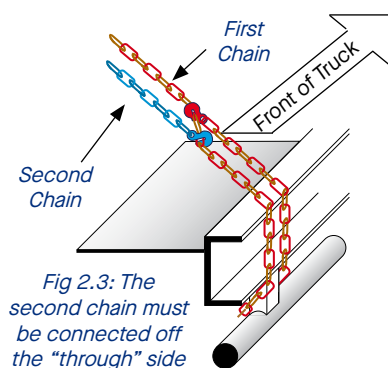

Fig 2.3: The second chain must be connected off the “through” side of the first chain.
- ✓ **2nd off 1st chaining method MUST be used**, if two chains are needed. Refer to the BlueScope Steel Load Restraint Guideline “Chaining - 2nd off 1st Method”. (Fig. 2.3)